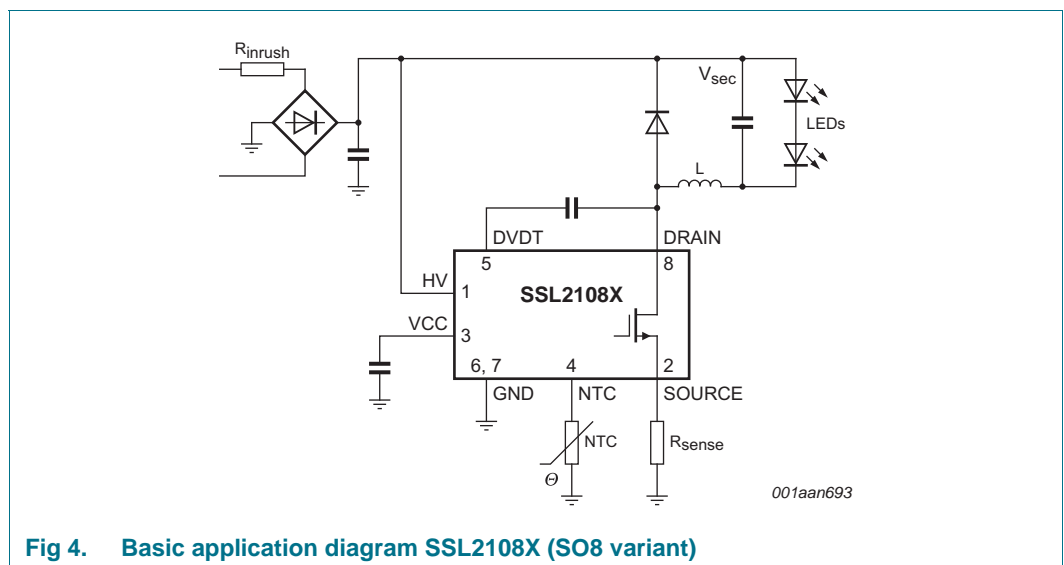
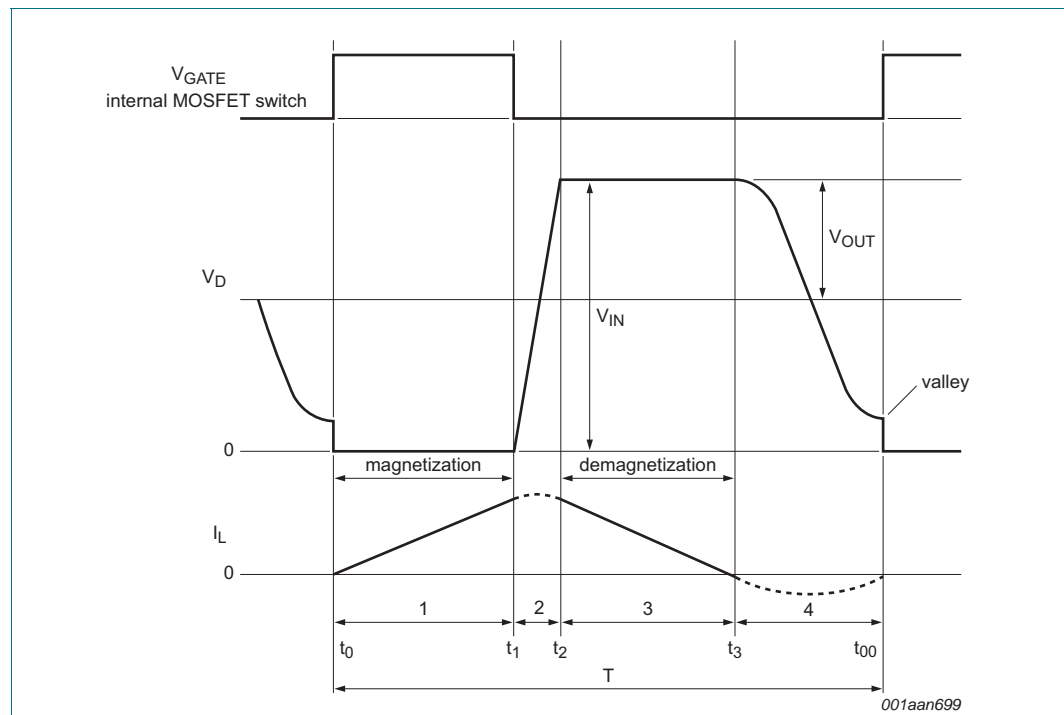

Fig 4. Basic application diagram SSL2108X (SO8 variant)
Fig 5. Buck waveforms and valley detection
- Low component count (see Figure 4) LED driver solution:
The converter in the SSL2108X is a Boundary Conduction Mode (BCM), peak current controlled system. For the basic application diagram see Figure 4, for the waveforms see Figure 5. This converter type operates at the boundary between continuous and discontinuous mode. Energy is stored in inductor L each period that the switch is on. The inductor current  $I_L$  is zero when the internal MOSFET switch is switched on. Thereafter, the amplitude of the current build-up in L is proportional to  $V_{IN} - V_{OUT}$  and the time that the internal MOSFET switch is on. When the internal MOSFET switch is switched off, the current continues to flow through the freewheel diode and the output capacitor. The current then falls at a rate proportional to the value of  $V_{OUT}$ . The LED current  $I_{LED}$  is almost equal to half the peak switch current. A new cycle is started, as soon as the inductor current  $I_L$  is zero.
A new cycle is started when the primary switch is switched on (see Figure 5). Following time  $t_1$ , when the peak current is detected on the SOURCE pin, the switch is turned off and the secondary stroke starts (3). When the secondary stroke is complete and the coil current at  $t_3$  equals zero, the drain voltage starts to oscillate around the  $V_{IN} - V_{OUT}$  level. The amplitude equals  $V_{OUT}$ . A special feature, called valley detection is an integrated part of the SSL2108X circuitry. Dedicated built-in circuitry connected to the DRAIN pin, senses when the voltage on the drain of the switch has reached its lowest value. The next cycle is then started and as a result the capacitive switching losses are reduced. A valley is detected and accepted if both the frequency of the oscillations and the voltage swing are within the range specified ( $f_{ring}$  and  $\Delta V_{vrec(min)}$ ) for detection. If a valid valley is not detected, the secondary stroke is continued until the maximum off-time ( $t_{off(high)}$ ) is reached, then the next cycle is started.